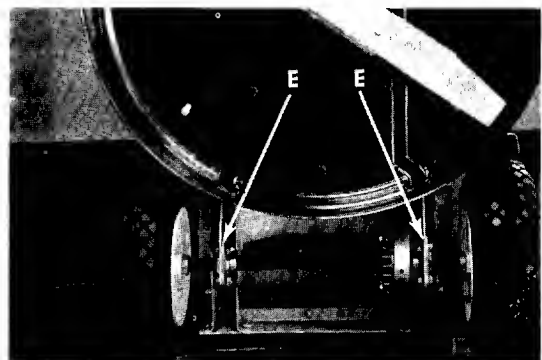

FIGURE 19. LUBRICATION
- d. **Rear Axle Bearings.** Lubricate the rear axle bearings after every 25 hours of operation with SAE 30 oil. Wipe up excessive oil with a rag. See figure 19.
- e. **Chain.** Remove the chain once each season, clean in kerosene, dry and lubricate with a rag saturated in SAE 30 oil. See figure 19.